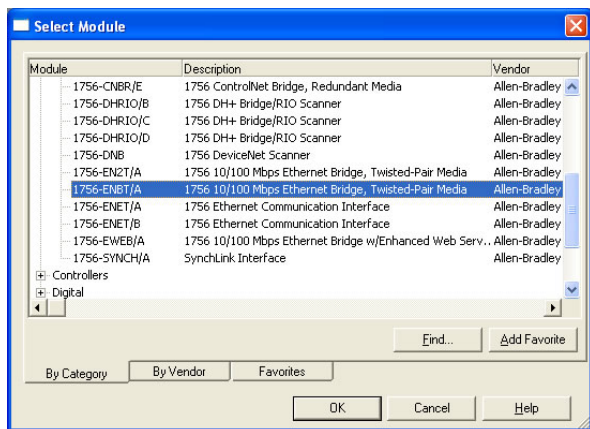

Figure 75: Adding a New 1756-ENBT/A Module
- 5) Under “Communications”, select “1756-ENBT/A”, and click OK. Refer to Figure 75.